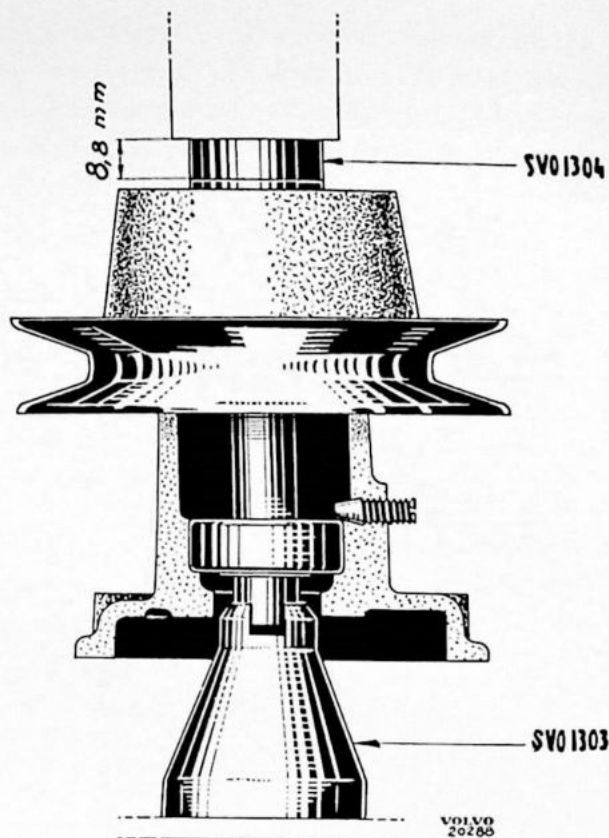

Fig. 103.
4. Press pulley onto shaft with tool SVO 1304 which localizes pulley in correct position. The opposite end of the shaft is supported with tool SVO 1303 (Fig. 103).